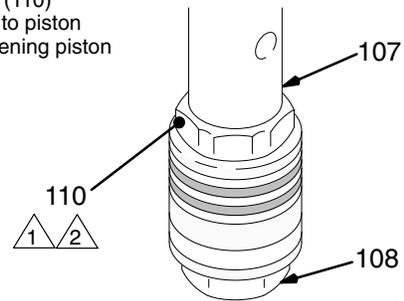

Fig. 21 03179
3. Tighten the nut (110) onto the piston valve (108) to 2 in-lb (0.23 N.m). See Fig. 21.
- Hand tighten the valve into the piston rod just until the nut (110) contacts the rod. See Fig. 21.
- Place the flats of the rod (107) in a smooth jaw vise.
- Carefully tighten the nut (110) against the piston rod to 30 ft-lb (40 N.m). See Fig. 21.
Use two wrenches to maintain the alignment mentioned in Fig. 21.